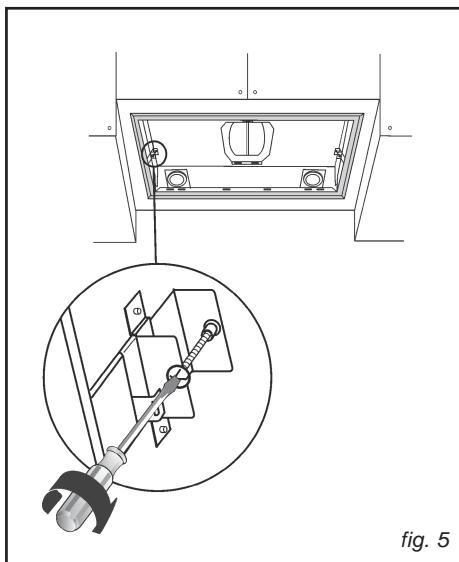

fig. 5
- Tighten the 2 screws inside the appliance (Fig. 5) until it fits snug on the bottom of the wall unit. Do not tighten the two screws strongly to maintain the two metallic clamps in the right position.
- Tighten the 2 screws inside the appliance (Fig.5) until it fits snug on the bottom of the wall unit. Do not tighten the two screws strongly to maintain the two metallic clamps in the right position.
Tighten the 2 screws inside the device (Fig. 5); moving the 2 small tongues toward the device inside using the right carvings (Fig. 6); pull out the device from its side.